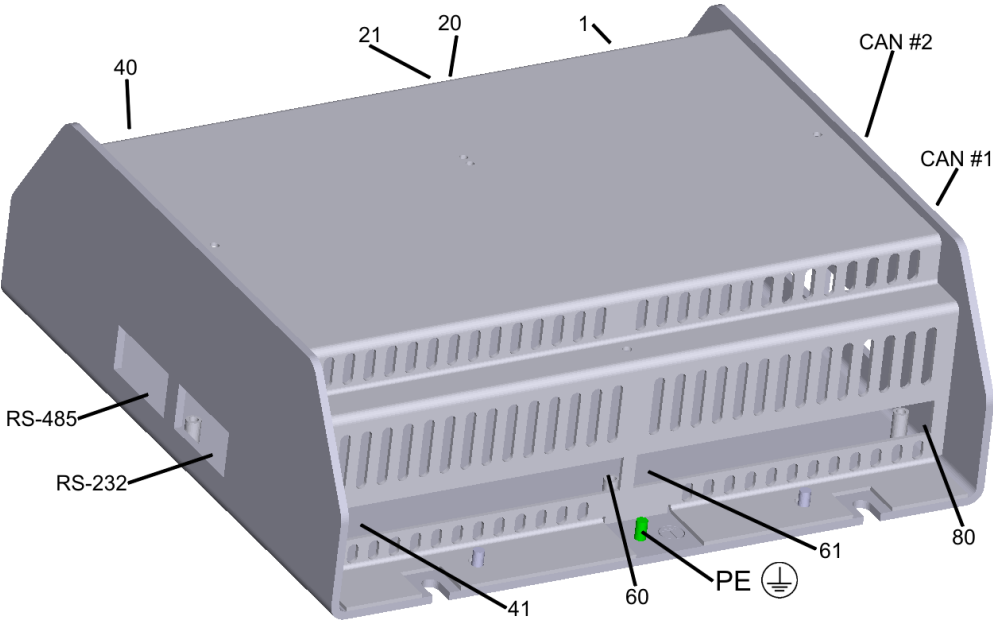

Figure 4-9: easYgen-3100 - terminal arrangement
The Protective Earth terminal 61 is not connected on the easYgen-3100 with sheet metal housing. The protective earth connection at the sheet metal housing must be used instead (refer to Figure 4-9).
The Protective Earth terminal 61 is not connected on the easYgen-3100 with sheet metal housing. The protective earth connection at the sheet metal housing must be used instead (refer to Figure 4-9 on page 17).
- Protective Earth (PE) must be connected to the unit to avoid the risk of electric shock. The conductor providing the connection must have a wire larger than or equal to 2.5 mm² (14 AWG). The connection must be performed properly.
- easYgen-3100: The protective earth terminal 61 is not connected on the easYgen-3100 with sheet metal housing. The protective earth connection at the sheet metal housing must be used instead (refer to Figure 4-9 on page 17).